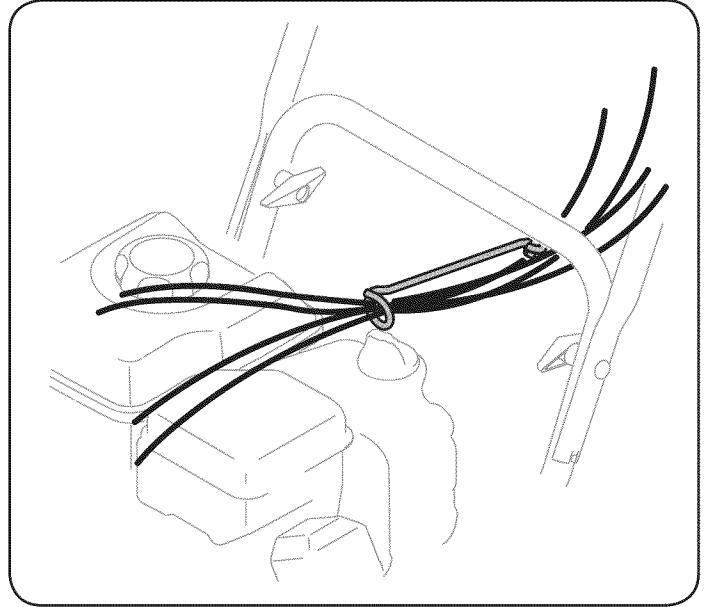

Figure 5
6. Check that all cables are properly routed through the cable guide on the lower handle. See Figure 5.